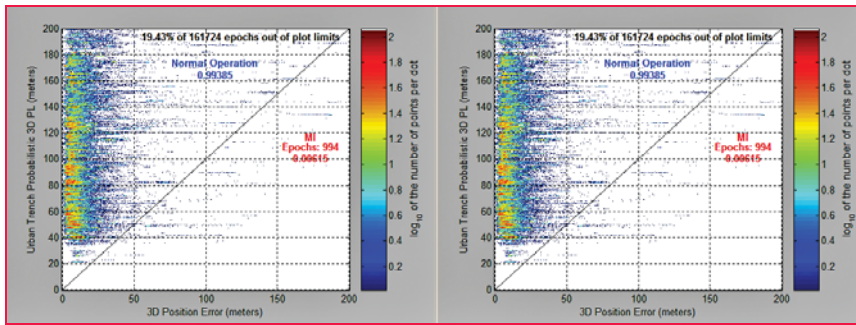

Figure 6: Stanford diagrams with no modelling of multipath and when the Urban Trench model of probabilities is applied
Figure 6 shows that the proposed 3D Urban Trench Protection Level (UTPL) outperforms the standard protection level, which does not consider the local sources of multipath. A total duration of approximately 10 hours of tests have been carried out and processed. Misleading Information (MI) occurred a few percents of time in standard, i.e. without urban modelling, whereas the 3D UTPL occurrence of MI is 10 times less: one thousand over the 161 724 epochs where the computation was applicable (epochs with only 4 satellites were not considered).